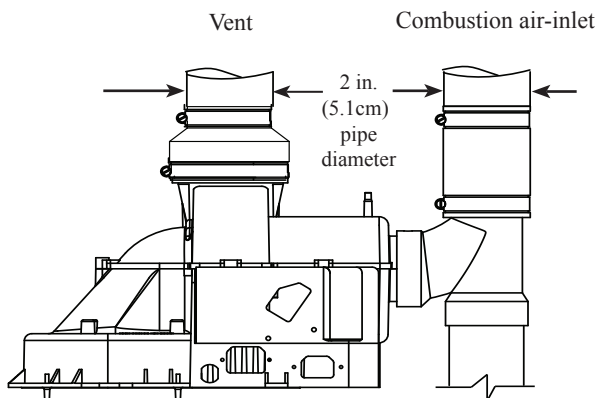

Figure 1
2. Connect the combustion air-inlet system piping to the combustion air-inlet piping tee using the 2 in. (5.1 cm) already installed rubber coupling and clamps (See Figure 1).
3. For vent and combustion air-inlet terminals, use the two (2), 2 in. (5.1 cm) diameter, Schedule 40, PVC, 90°, 1/4 standard bend elbows supplied with the water heater.